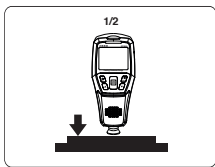

Figure 3
1. When Figure 3 appears on the screen, place a standard coating thickness film with known thickness (e.g.: 500 $\mu$ m) on top of an uncoated substrate.